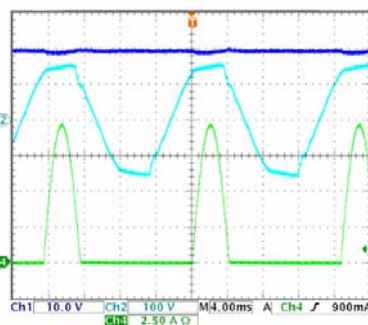

Figure 3-16 Positive
**Positive:** Using the power line frequency as the reference frequency for the load current, for the Positive setting, the positive half period of the power line is loading  $V_{source}$  (UUT). This load frequency is the same as power line frequency (please refers Figure 3-16). For example: power line frequency is 60Hz thus the load frequency of the current is 60Hz.